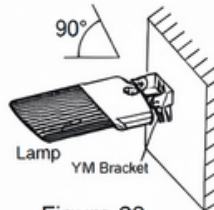

Figure 23
Step 3: Connect the fixture to the bracket and tighten the screws; connect the wires properly and put them into junction box. (Figure 23)
Note: Adjustable angle is 0-90° (Figure 23)